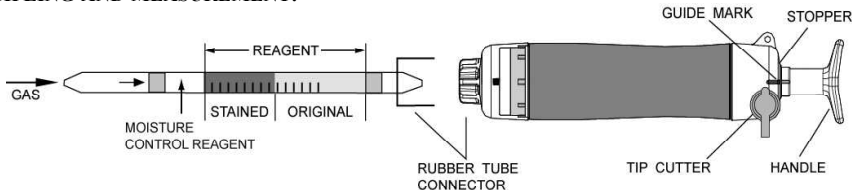

Fig.1
- ② Insert the detector tube into the aspirating pump securely as shown in Fig.1. (Arrow mark shall point to the pump.)
- ③ Align the guide marks on the shaft and stopper of the aspirating pump.
- ④ Pull the pump handle at a full stroke until it locks and wait for 1 minute or until the completion of sampling is confirmed with the flow indicator of the pump (See descriptions about the flow indicator in the instruction manual of the pump).
- ⑤ On completion of sampling, read the scale at the maximum point of the stained layer.
- ⑥ When the concentrations are below the scale range, 2 pump strokes can be used to determine these lower concentrations.
- ⑦ When the concentrations are over the scale range, a 1/2 pump stroke can be used to determine these higher concentrations.